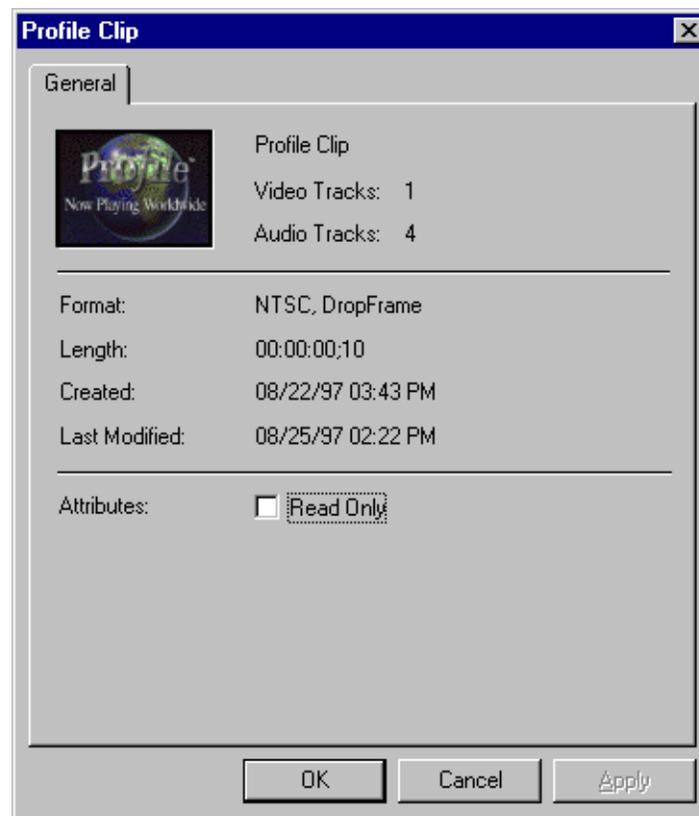

Figure 56. Properties dialog box for clips or masters
Media Manager lets you view the media properties for clips and masters as well as properties of the library system (see “Viewing Library, Cartridge and Archived Clip Properties” on page 118). To view properties (see Figure 56):
2. Choose **Properties** from the **File** menu or from the shortcut menu with a right-click. You can also click the **Properties** button on the toolbar. The Properties dialog box for clips or masters appears (see Figure 56).